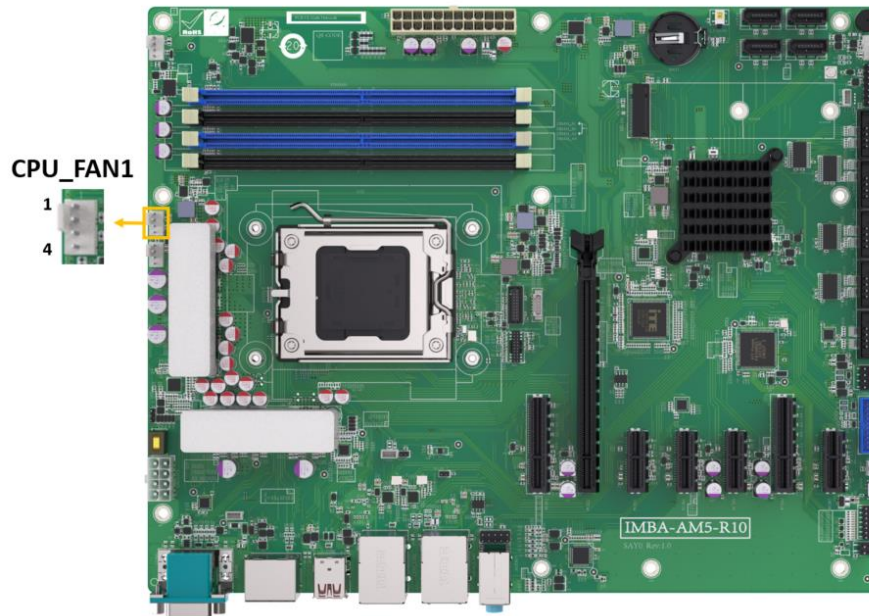

Figure 4-8: CPU Fan Connector Location
- CN Location:** See Figure 4-8